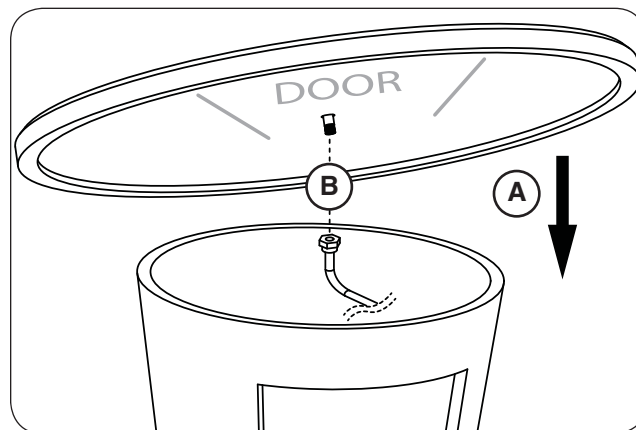

Fig. 16-3 Two-piece models: place top & connect flex
3. **CAREFULLY** place the top on the unit, ensuring that the markings on its underside align with the door opening (see Fig. 16-3).
4. Locate the short flex connector that is coming off the top of the valve assembly (found inside of the enclosure). Route it to the connection found on the underside of the firetable top and connect. Tighten securely. See Fig. 16-3.